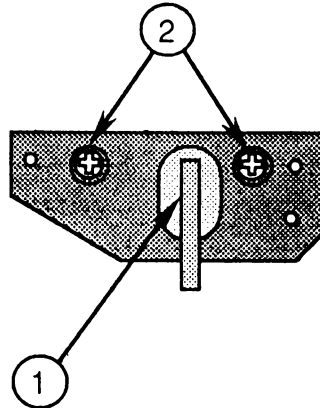

FIGURE 39
9. Pull the plastic switch button (Figure 39, #1) off the switch assembly, and remove the two screws (Figure 39, #2) that hold the switch to the metal bracket.
1. Replace the two screws (Figure 39, #2) that secure the on/off switch to the metal bracket.
2. Replace the plastic switch button (Figure 39, #1) over the switch shaft.